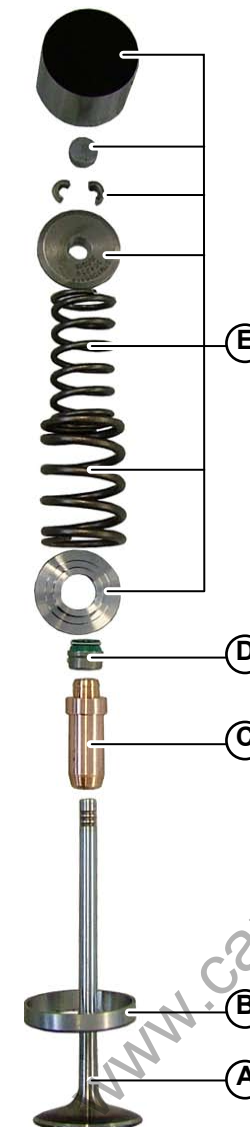

Fig.1
1. Check the head valve (A-Fig.1) and the seat (B-Fig.1) conditions; if necessary, replace the valve or remake the seat.
2. Check the valve guides (C-Fig.1) and the oil seal (D-Fig.1) wear; if necessary, replace the valve guide following the technical specifications; always replace the seal.
3. Clean the tappet, spring and shim pack (E-Fig.1) in the following order: